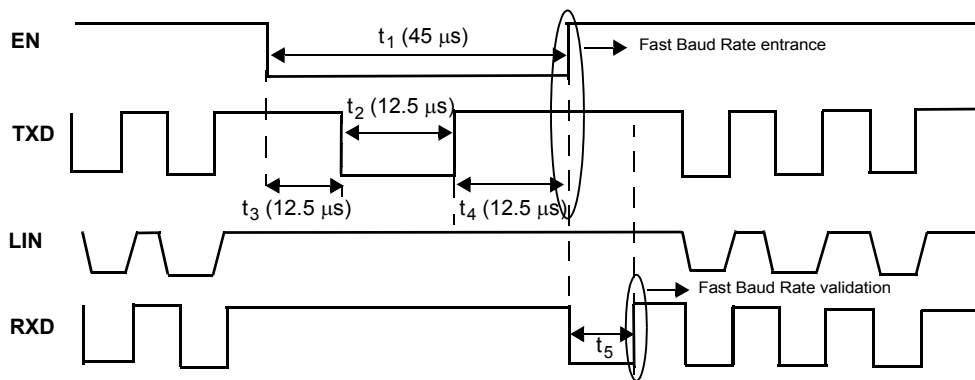

Figure 22. Fast Baud Rate Selection (Toggle Function)
29. See Figure 22 and 23
The Fast Baud Rate selection is reported by the RXD pin. Fast Baud Rate is activated by the toggle function (See Figure 22). At the end of the toggle function, just after EN rising edge, RXD pin is kept low for t_5 to flag the Fast Baud Rate entry (See Figure 22).
A combination of the logic levels on the EN and TXD pins allows the device to enter into the Fast Baud Rate mode of operation (see Figure 22).
The device enters into the Fast Baud Rate if the delay between Step 1 to Step 5 is 45 μ s maximum. The toggle function is described in Figures 22. Once in Fast Baud Rate, the same toggle function just described previously is used to bring the device back into Normal Baud Rate.
Fast Baud Rate selection is reported to the MCU by RXD pin. Once the device enters in this Fast Baud Rate, the RXD pin goes at low level for t_5 . When the device returns in Normal Baud Rate with the same toggle function, the RXD pin stays high. Both sequences are illustrated in Figures 22 and 23.